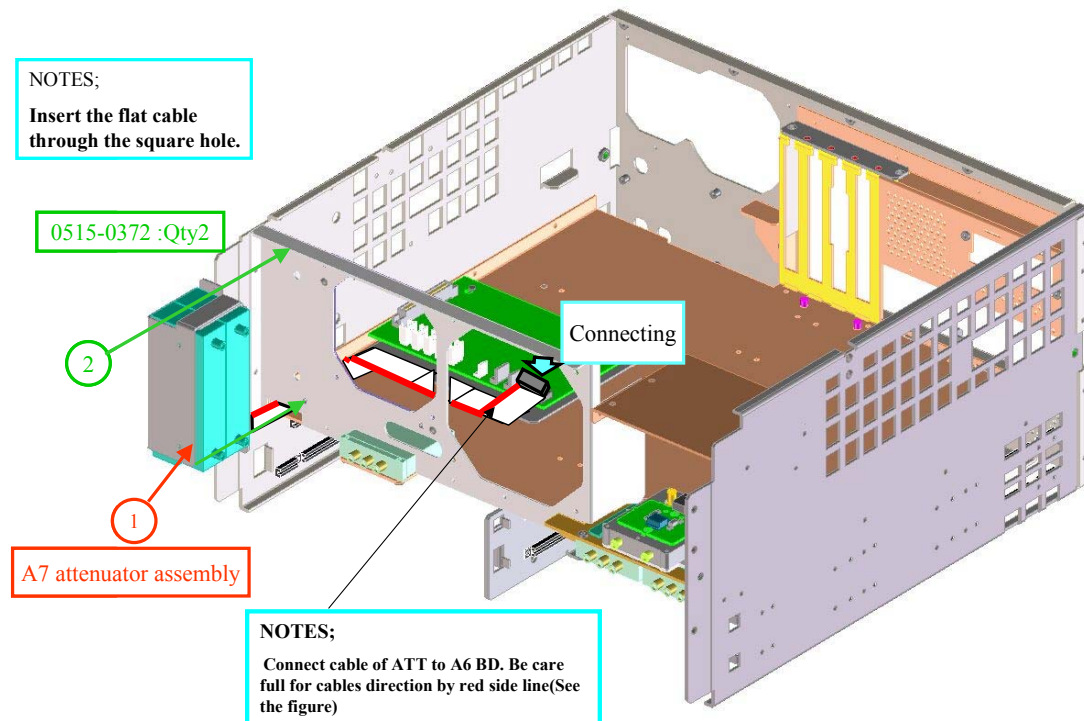

Figure 9 Install A7 attenuator assembly (for option 313, 314, 413, 414)
13. Install new A7 attenuator with 0515-0372 2 ea. Refer to Figure 9 for the detail.